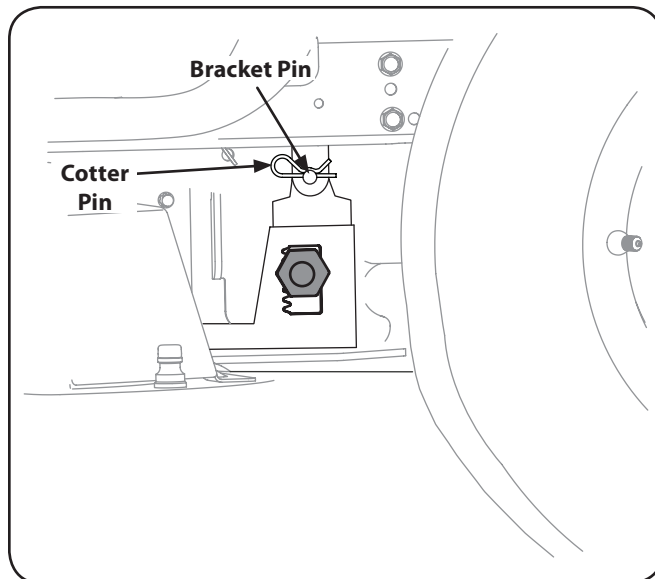

Figure 7-8
4. Once the brackets are properly aligned, slide the pin on the deck lift adjustment bracket into the lift bracket and secure with cotter pins. See Figure 7-8.